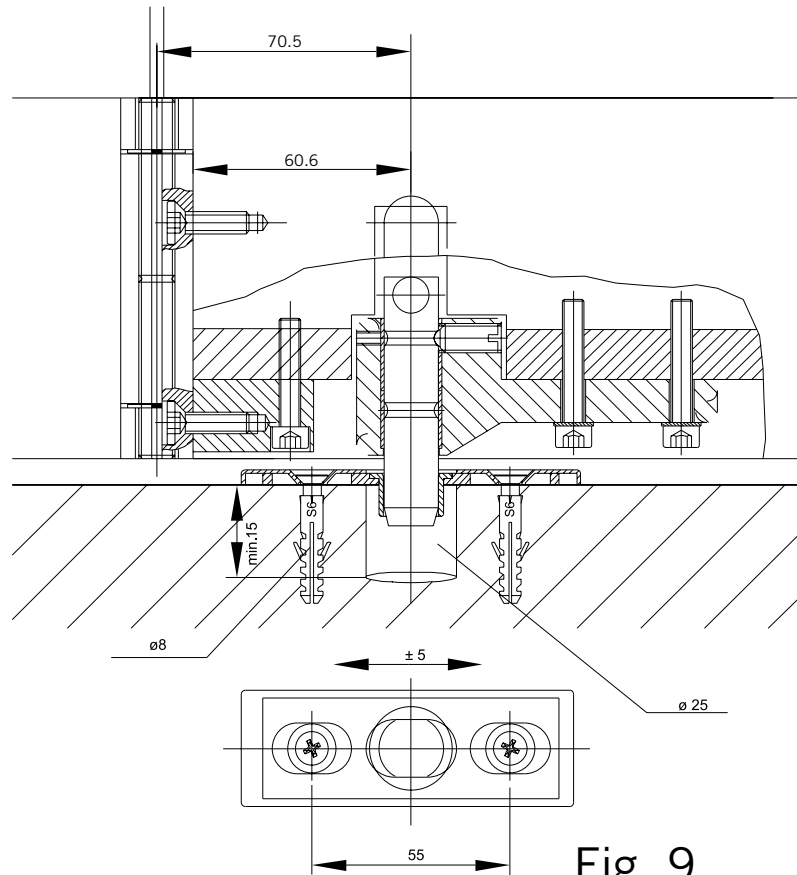

Fig. 9
9. (Alternative to 8.) Installing adjustable strike plate (Fig. 9):